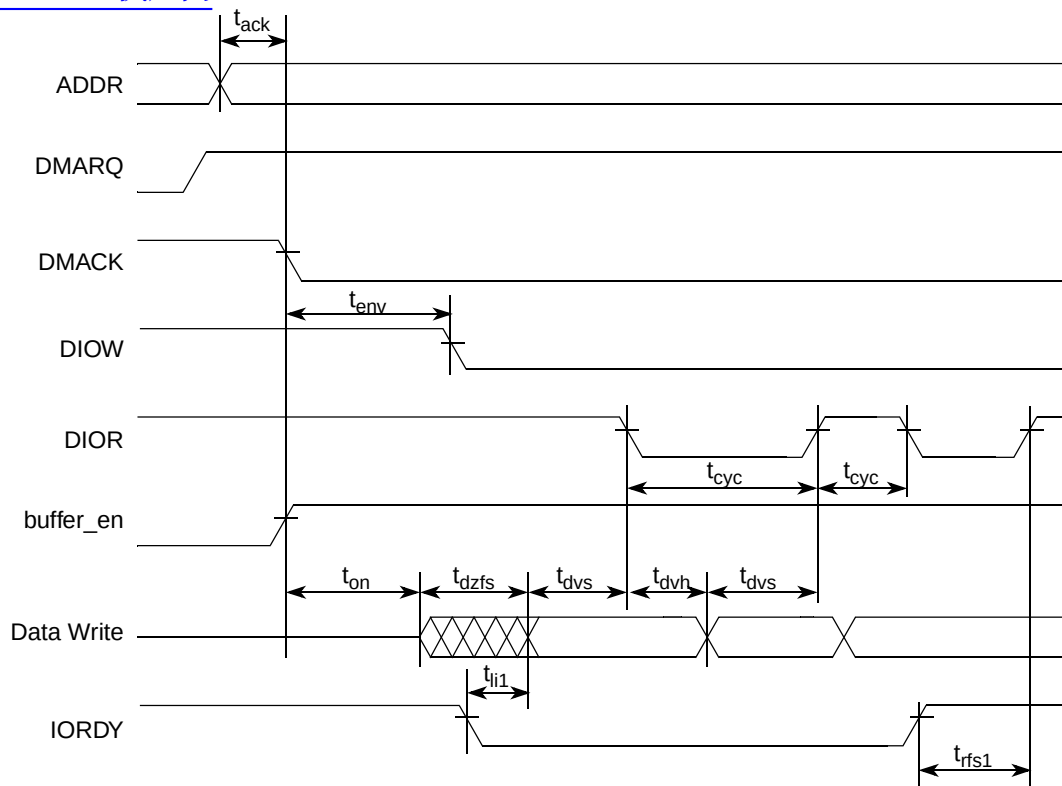

Figure 32. UDMA Out Transfer Start Timing Diagram
- Figure 32 gives timing for UDMA out transfer start